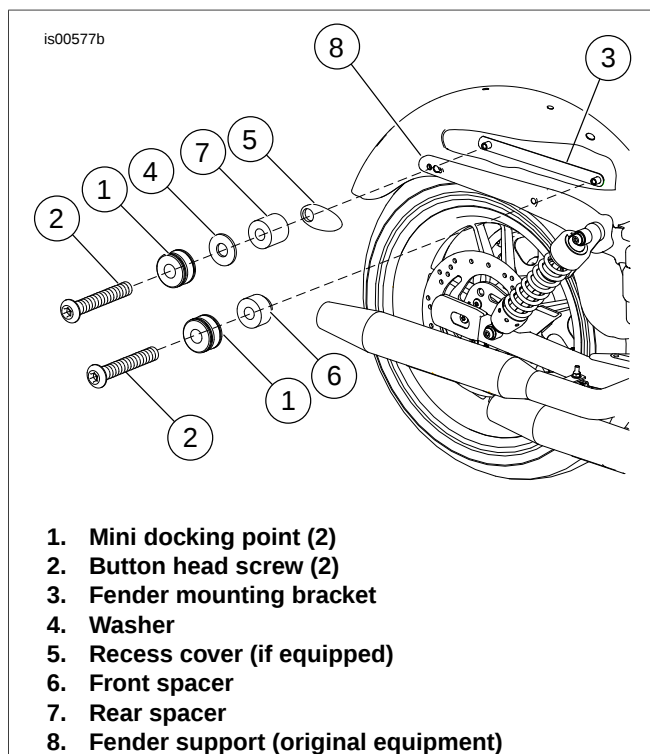

Figure 4. Install Fender Mounting Kit (Models without Detachable Accessories)
2. See Figure 4. Place new fender mounting bracket (3) inside fender so the threaded bosses fit inside the two holes in the fender.